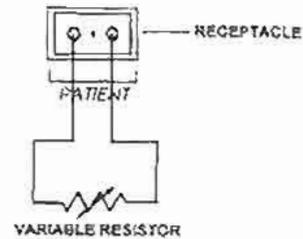

Figure 3-7. Alarm test circuit.
- c. Set up a test circuit as depicted in figure 3-7.